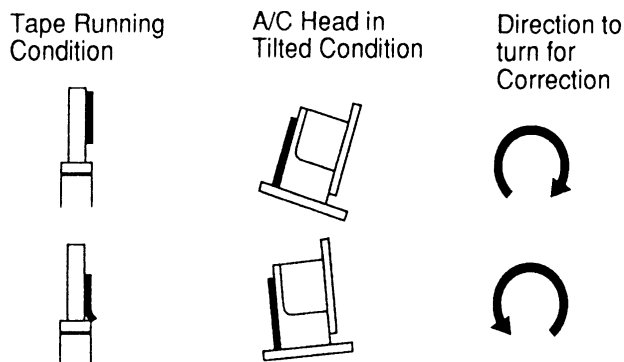

Fig. 11 - A/C Head Tilt Adjustment/Confirmation
2. If necessary, adjust the black screw (B) shown in Fig. 10 clockwise until the tape begins to curl at the lower edge of the P4 post. Then adjust the screw counterclockwise until the curling is eliminated (Fig. 11).